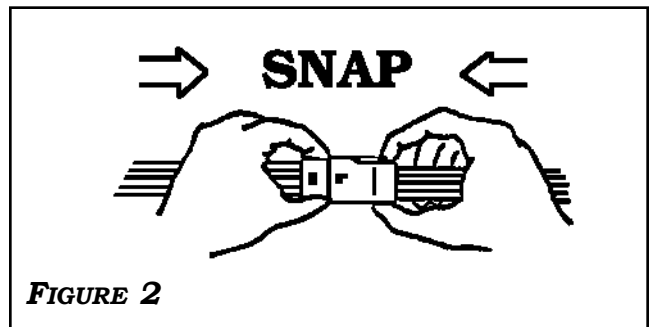

FIGURE 2
B. WHEN CONNECTING MATING CONNECTORS, PUSH CONNECTORS TOGETHER UNTIL LOCKING MECHANISMS ARE FIRMLY LOCKED TOGETHER. **FIGURE 2**